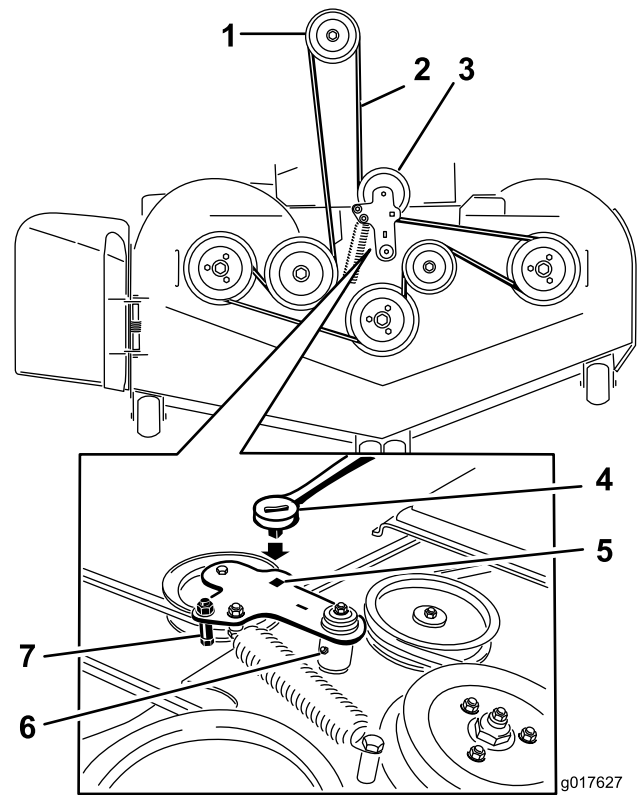

Figure 57
5. Use a ratchet in the square hole in the idler arm to remove tension on the idler spring (Figure 57).
7. Remove the belt guide on the spring-loaded idler arm (Figure 57).
9. Install the new belt around the mower pulleys and the clutch pulley under the engine (Figure 57).
10. Install the belt guide on the idler arm (Figure 57).
11. Using the ratchet in the square hole, install the idler spring (Figure 57).